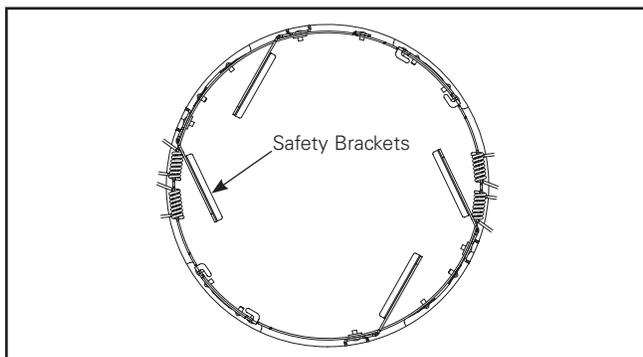
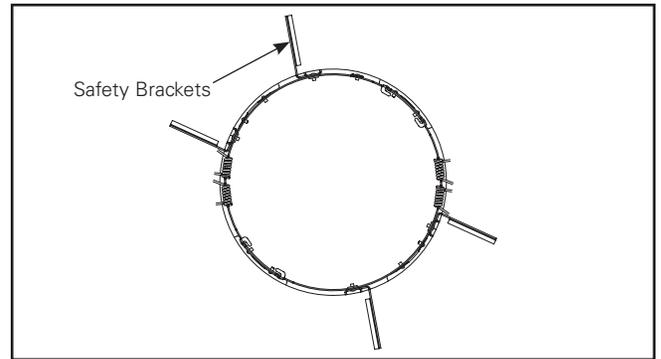

Figure 33.
Figure 34.
- When Retrofit Ring is first installed into ceiling, four safety brackets will prevent the LED Module from being installed (Figure 33). To continue with installation turn the free arm of the safety brackets clockwise until the arm makes a 90° angle with the fixed base of the safety bracket (Figure 34).